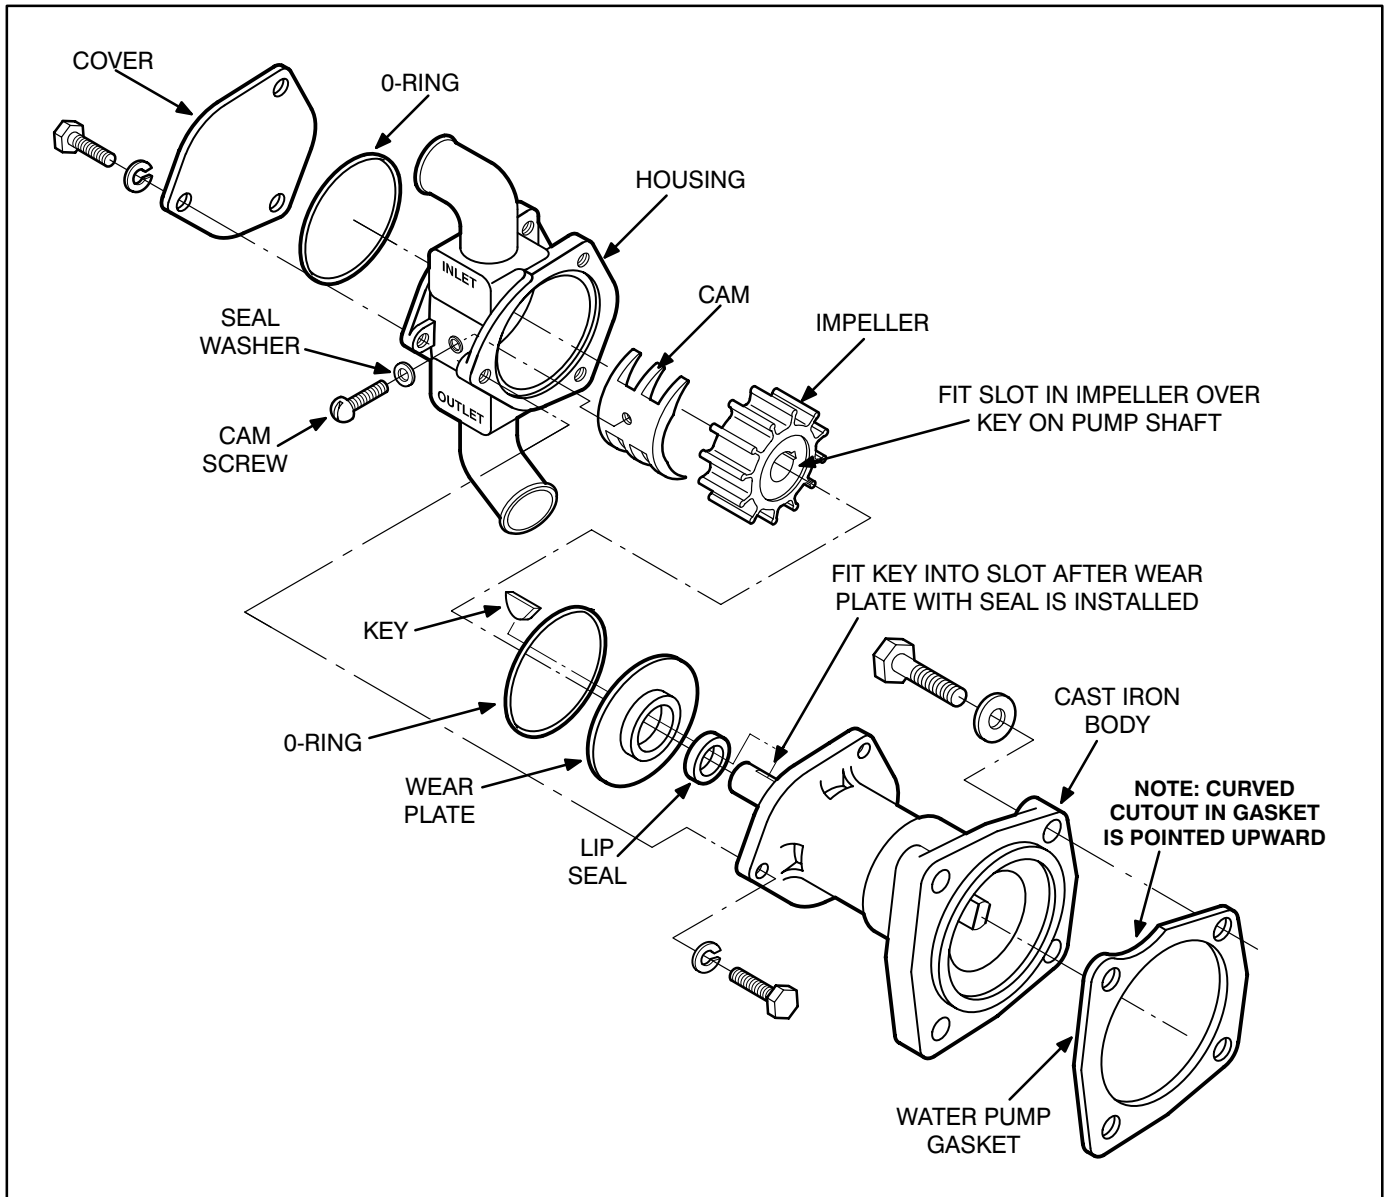

FIGURE 8-4. RAW WATER PUMP
4. Use a pliers or other gripping implement to remove the key from the pump shaft. See Figure 8-4.